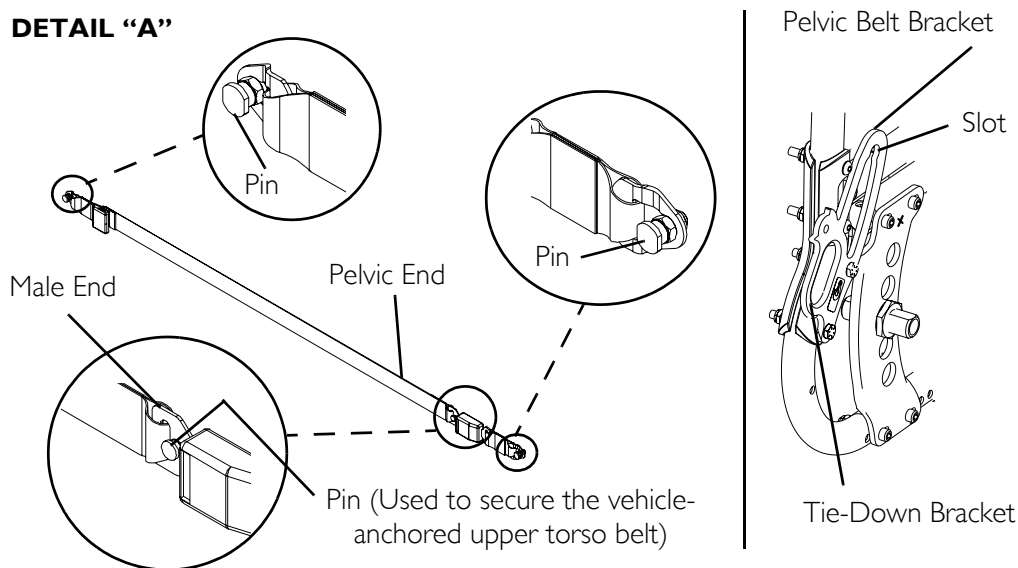

FIGURE 15.2 Wheelchair-Anchored Belts
NOTE: For this procedure, refer to FIGURE 15.2.
1. Install the pelvic belt pin (Detail "A" of FIGURE 15.2) into slot in the pelvic belt bracket. Pull upwards until it snaps into place.
NOTE: Note the position of the male end of the belt when installing the pelvic belt onto the pelvic belt brackets. The male end of the pelvic belt (Detail "A" of FIGURE 15.2) has a pin which is used to secure the vehicle-anchored upper torso belt.